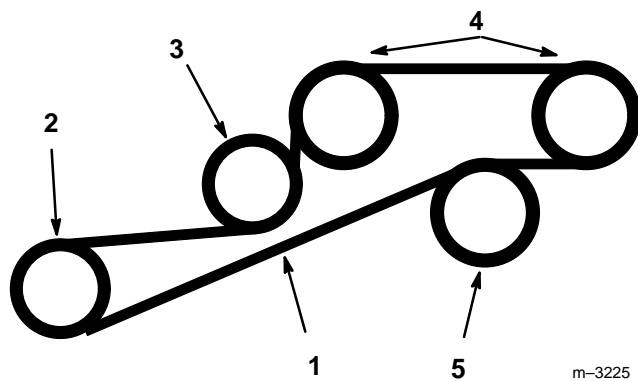

Figure 35
2. Push spring loaded idler down and remove traction belt from the engine, fixed idler and hydro pump pulleys (Fig. 35). Remove belt over clutch.
3. Install new belt over clutch and around engine, fixed idler and hydro pump pulleys (Fig. 35).
4. Push spring loaded idler down and align below traction belt. Release pressure on spring loaded idler (Fig. 35).